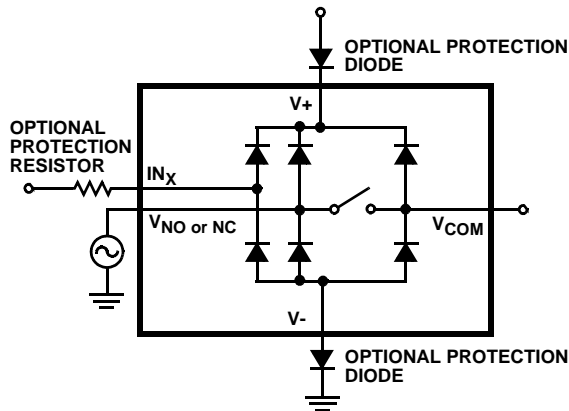

FIGURE 7. OVERVOLTAGE PROTECTION
$V-$  (see Figure 7). To prevent forward biasing these diodes,  $V+$  and  $V-$  must be applied before any input signals, and input signal voltages must remain between  $V+$  and  $V-$ . If these conditions cannot be guaranteed, then one of the following two protection methods should be employed:
1. Logic inputs can easily be protected by adding a  $1k\Omega$  resistor in series with the input (see Figure 7). The resistor limits the input current below the threshold that produces permanent damage, and the sub-microamp input current produces an insignificant voltage drop during normal operation.
2. Adding a series resistor to the switch input defeats the purpose of using a low  $R_{ON}$  switch, so two small signal diodes can be added in series with the supply pins to provide overvoltage protection for all pins (see Figure 7). These additional diodes limit the analog signal from 1V below  $V+$  to 1V above  $V-$ . The low leakage current